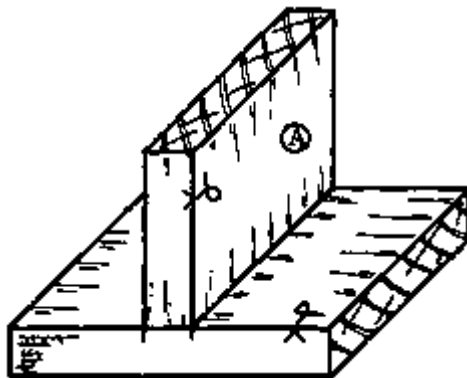

Fig. 2
- Mark one edge of the trench with a try square and the other edge by using piece A as a guide (Fig. 2). (Smooth piece A before using it to mark the trench).